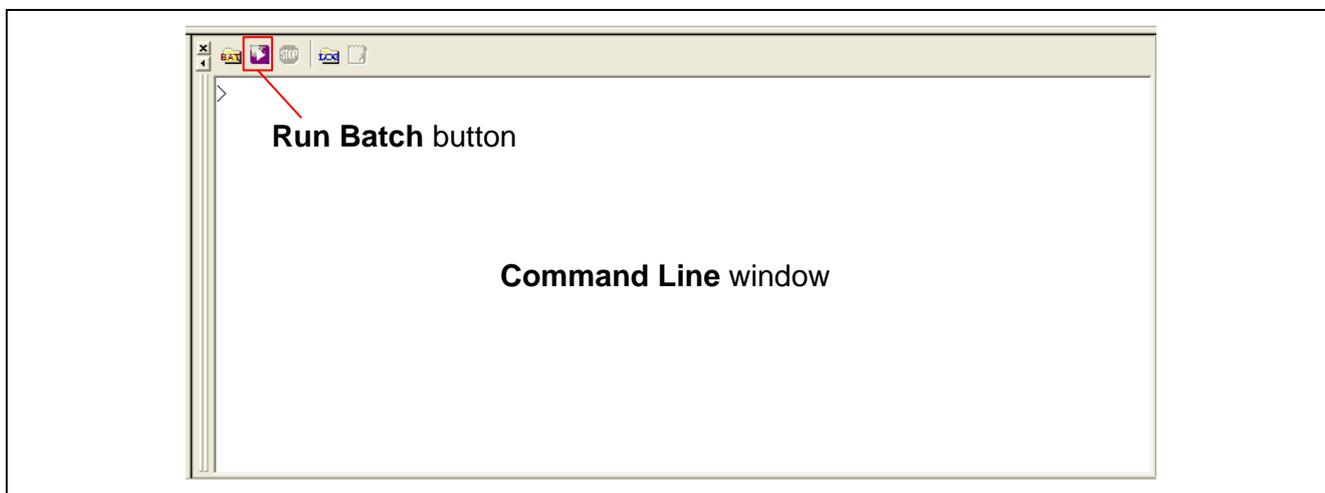

Figure 17 Command Line Window and Run Batch Button
5. After the connection is established, select the **Command Line** command to show the **Command Line** window as shown in Figure 17.